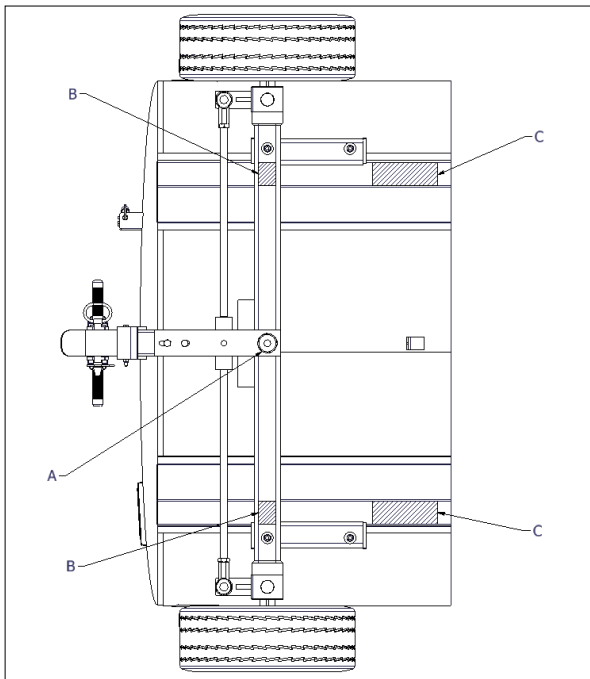
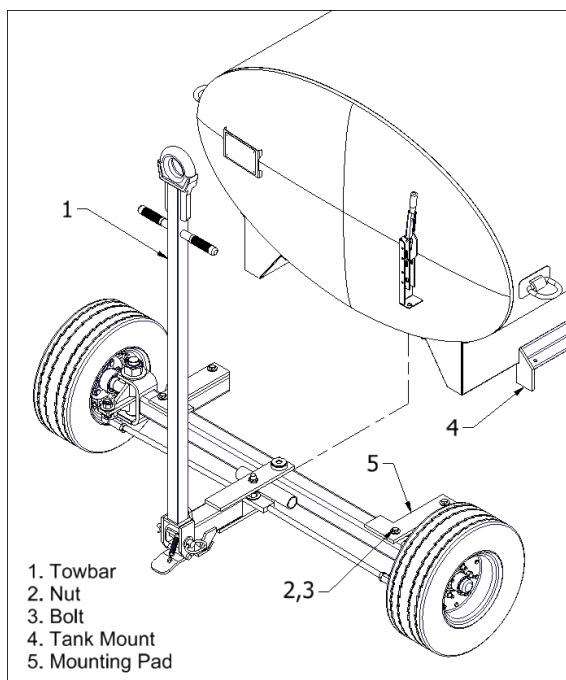

Figure 4-2 Lift Points
Figure 4-6 Front Undercarriage Removal
- Raise equipment with suitable maintenance jack (see Figure 4-2, arrow A for jack placement) high enough to remove wheel assembly.
- Place approved jack stands under front axle (see Figure 4-2, arrow B for stand placement).
To remove the entire Front Undercarriage assembly see figure 4-6, the equipment must have the front end raised. See Figure 4-2 for lift points.
- Raise equipment with suitable maintenance jack (see Figure 4-2, arrow A for jack placement) to allow four inches of space between the wheels and ground.
- Place cribbing under tank skids (see Figure 4-2, reference arrows C) to safely support the equipment.
- Remove bolts (2) and nuts (3).
- Pull Front Undercarriage forward. Note location of rubber mounting pads (5).
- Raise equipment with suitable maintenance jack high enough to remove wheel assembly. (See Figure 4-2, arrow A for jack placement).
- Place approved jack stands under rear axle (see Figure 4-2, arrow B for stand placement).